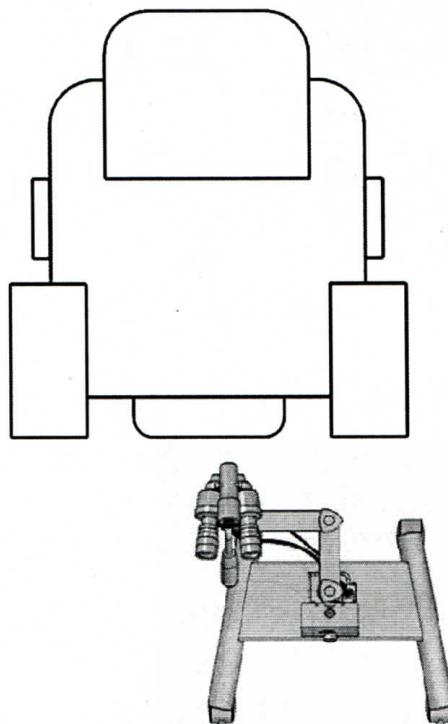

Figure 5 – Recommended position of the colposcope relative to the gynecological chair.
- 3) Put the colposcope into convenient position (fig. 5).